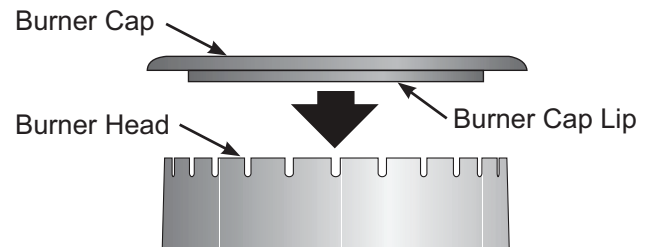

Figure 39: Burner Cap
1. Remove the burner cap from the burner head (see Figure 39). Clean the cap with hot soapy water and dry thoroughly.